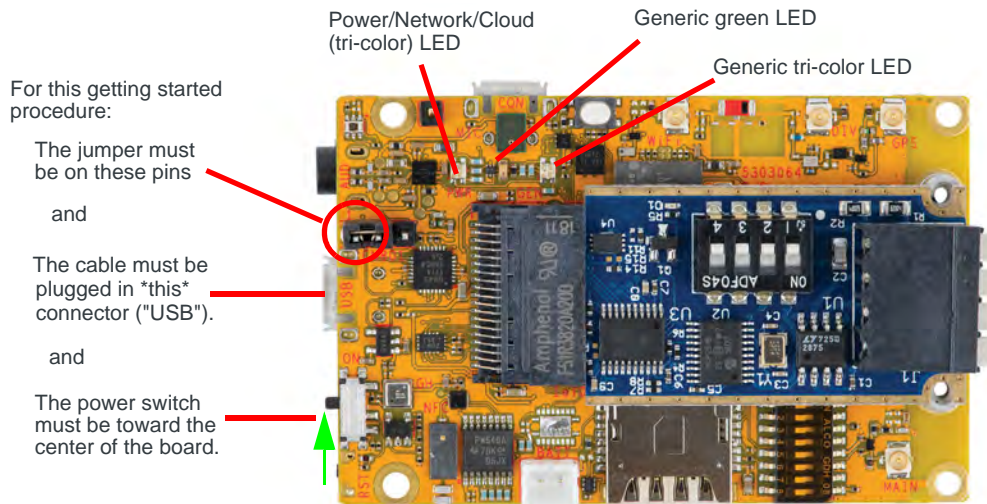

Figure 2-7: LEDs
- Make sure the USB cable is securely connected to the correct micro-B connector (as shown in Figure 2-7).
- Make sure the jumper block is on the correct pins (as shown in Figure 2-7).